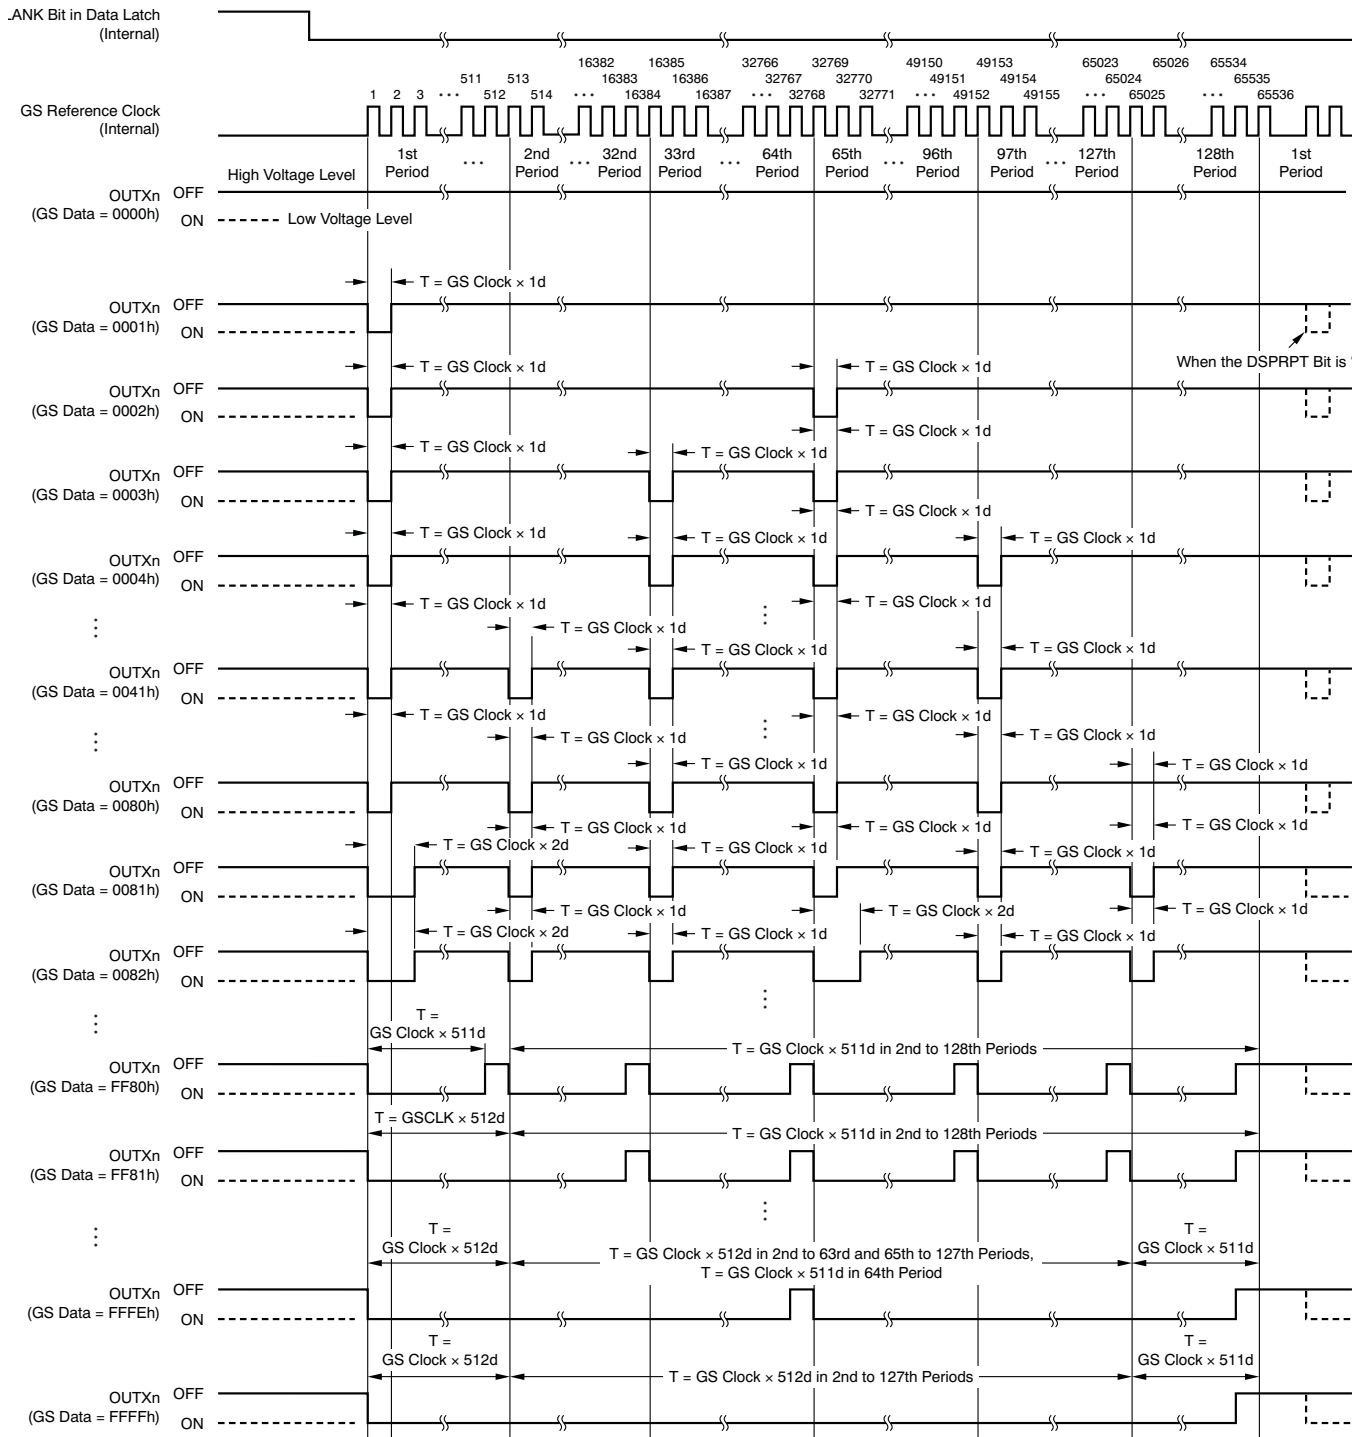

Figure 27. ES-PWM Operation
8.5.3 Enhanced Spectrum (ES) PWM Control
Enhanced spectrum (ES) PWM has the total display period divided into 128 display segments. The total display period refers the period between the first grayscale clock input to the 65536th grayscale clock input after BLANK (bit 213) is set to 0. Each display period has 512 grayscale values, maximum. Each output on-time changes depending on the grayscale data. Refer to Table 4 for sequence information and Figure 27 for timing information.